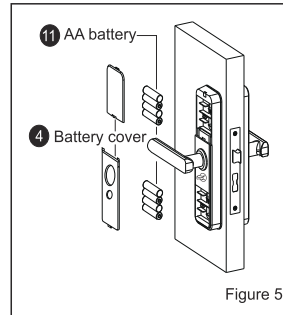

Figure 5
(5) As Figure 5:
- ① Put the Batteries correctly and fix the Battery cover.
- ① The face plate is horizontal with the door.
- ② The Latch bolt, Dead bolt and Security Bolt must works smoothly and flexibly.
- ③ The Front lock is vertical and stable.